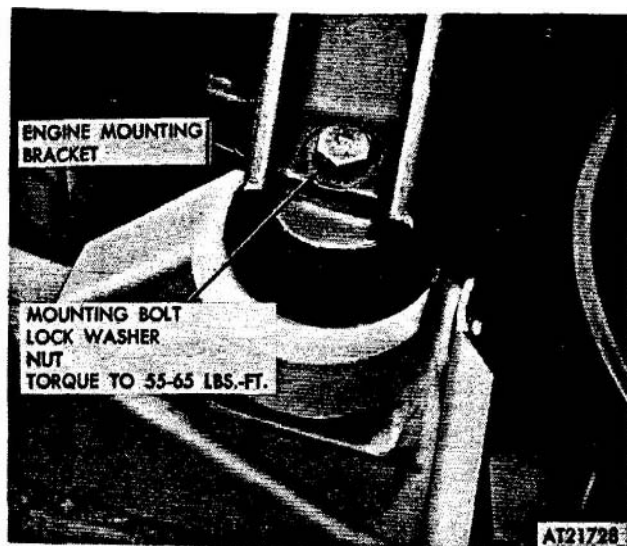
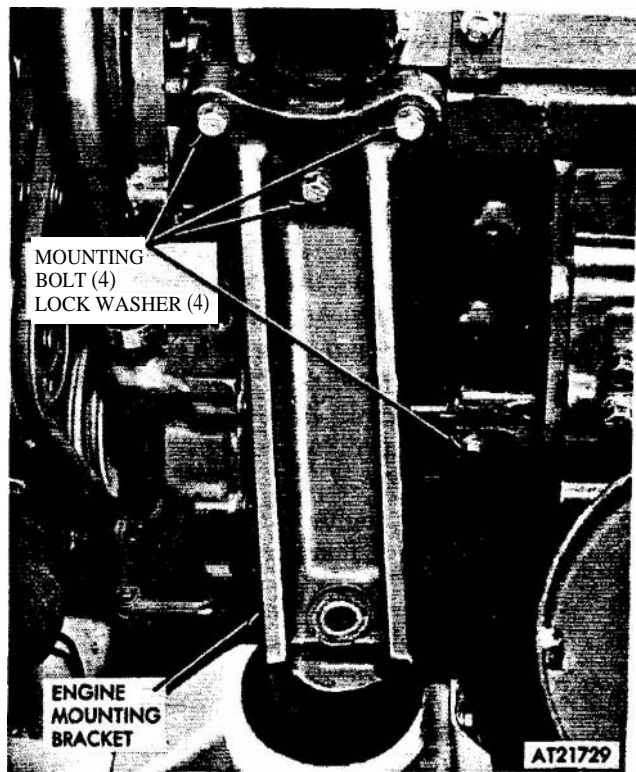

Figure 2-74.. Right rear engine mounting bolt
Figure 2-75. Right rear engine mounting bracket.
(3) Remove bolt, lock washer, and nut securing engine mounting bracket to tractor hull (fig 2-74). Loosen mounting bolt on other side.
(4) Remove exhaust header pipe (refer to para 2-68a).
(5) Connect lifting sling to a suitable hoist and apply a slight strain.
and loosening fifth screw located behind engine blower and cooler. Remove mounting bracket (fig 2-75).
(1) Slide slotted end of engine mounting bracket behind flatwasher on screw located behind engine blower and cooler loosened in a. (6) above (fig 2-75).
(2) Attach engine mounting bracket to Engine with four screws and lock washers. Tighten all five screws.
(3) Install mounting bolt, lock washer, and nut (fig 2-74).
(4) Relieve strain on engine and remove lifting sling.
(5) Tighten both engine mounting bolts and torque to 55-65 lbs-ft.
(6) Close and secure engine cover (refer to TM 9-2320-242-10).